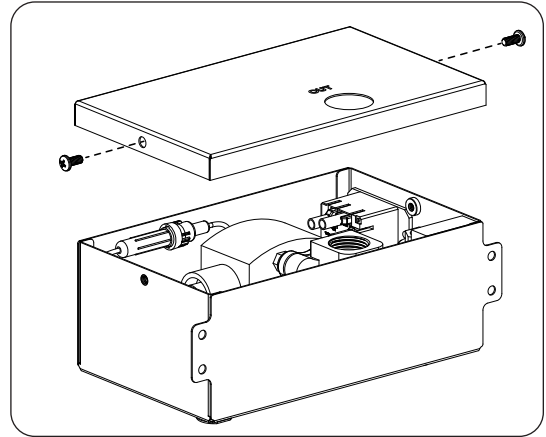

Fig. 57-1 Remove access panel of valve box
4. Use a Phillips screwdriver to remove the access panel of the valve box (see Fig. 57-1).